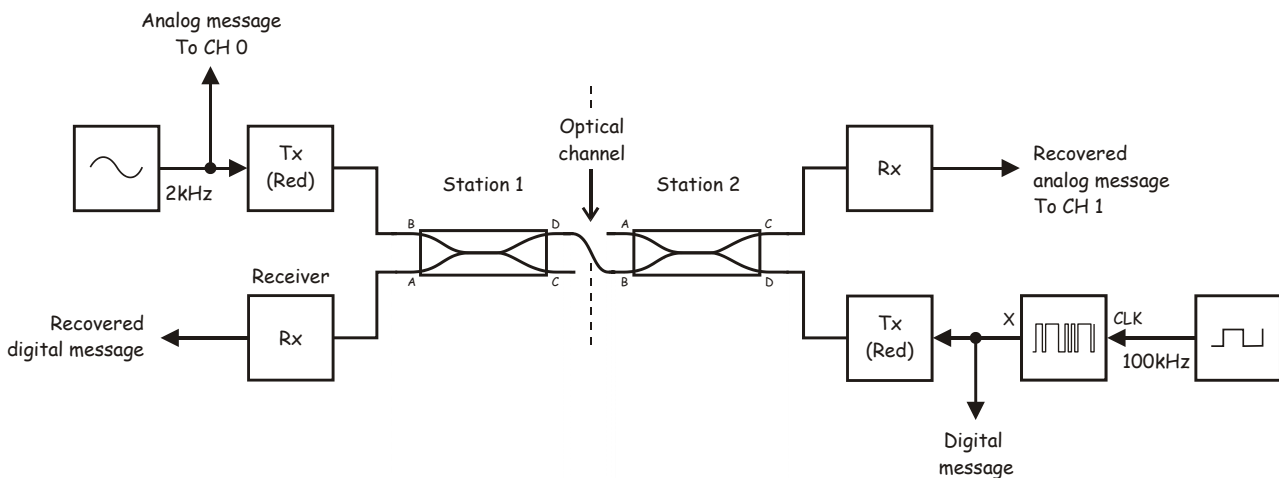

Figure 8: Bi-directional channel block diagram
27. Modify the scope's connections to the set-up as shown in Figure 8 below.